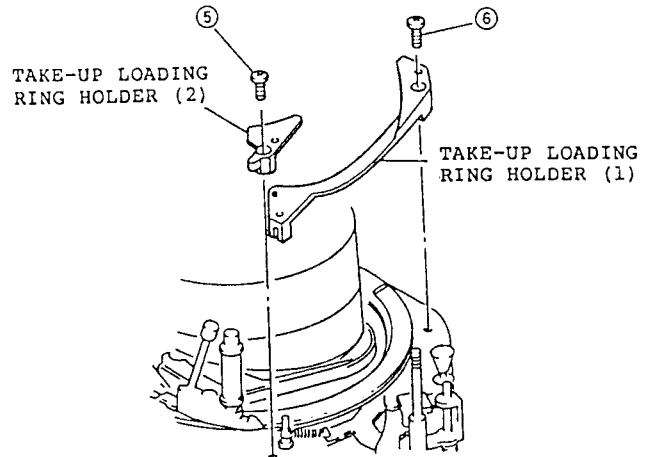

Fig. 2-85
(See Fig. 2-85)
13. Remove the take-up loading ring holders (1) and (2). (See Fig. 2-85)